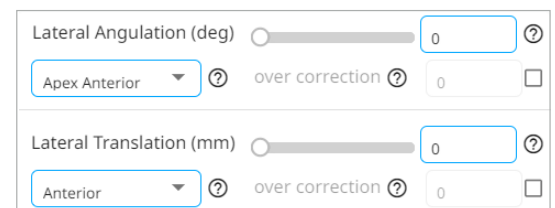

Figure 23
- **Lateral Angulation (deg):** enter a value in degrees; select apex anterior or apex posterior from the drop-down **(Figure 23)**